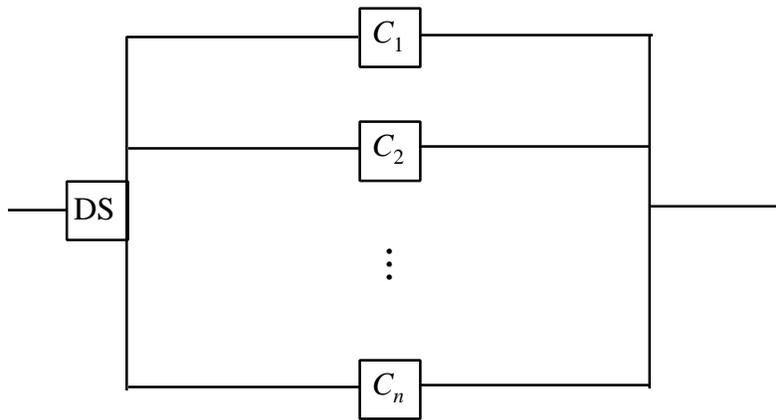

Figure 5: Standby Redundant System
Active redundant systems can sometimes be inefficient. These systems require only k of the n components to be operational, but all n components are initially in operation and thus subject to failure. An alternative is the use of spare components. Such systems have only k components initially in operation; exactly what we need for the whole system to be operational. When a component fails, we have a spare “standing by” which is immediately put in to operation. For this reason, we call these *Standby Redundant Systems*. Suppose our system requires k operational components and we initially have $n - k$ spares available. When a component in operation fails, a decision switch causes a spare or standby component to activate (becoming an operational component). The system will continue to function until there are less than k operational components remaining. In other words, the system works until $n - k + 1$ components have failed. We will consider only the case where one operational component is required (the special case where $k = 1$) and there are $n - 1$ standby (spare) components available. We will assume that a decision switch (DS) controls the activation of the standby components instantaneously and 100% reliably. We use the model shown in figure 5 below to represent this situation.